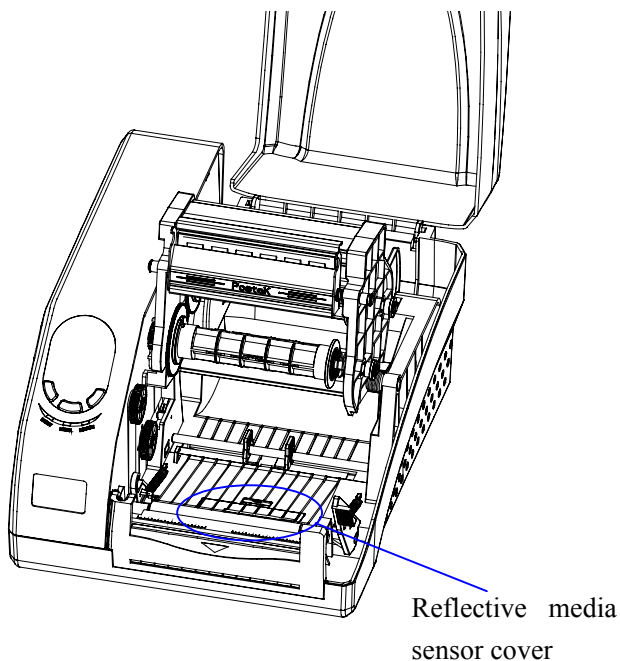

Figure 7-1
3. Lift the Printhead Module to expose the media sensor cover. (Figure 7-1).